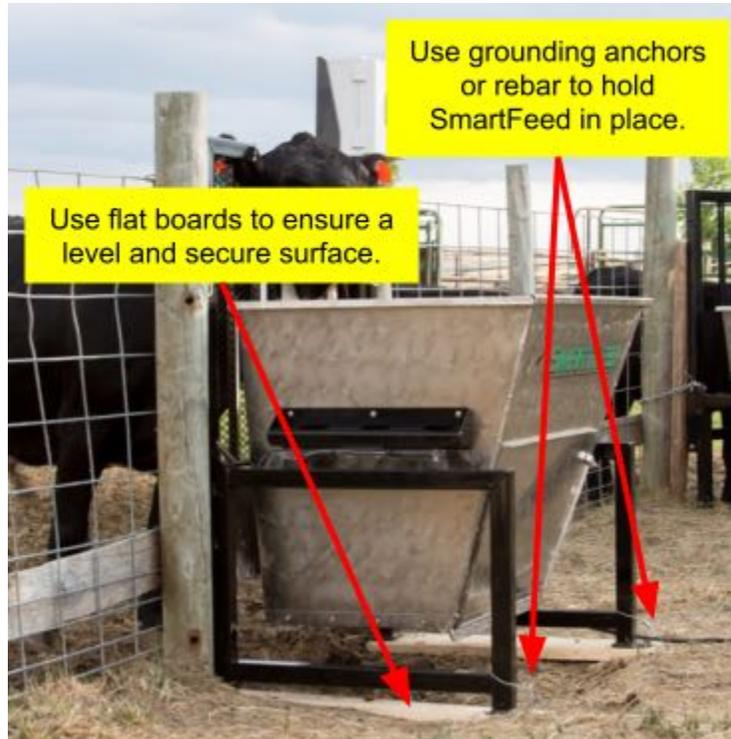

Figure 3) SmartFeed Orientation and Mounting Reference
3. Use rebar or ground anchors to secure the frame to the ground. See Figure 3 for reference.